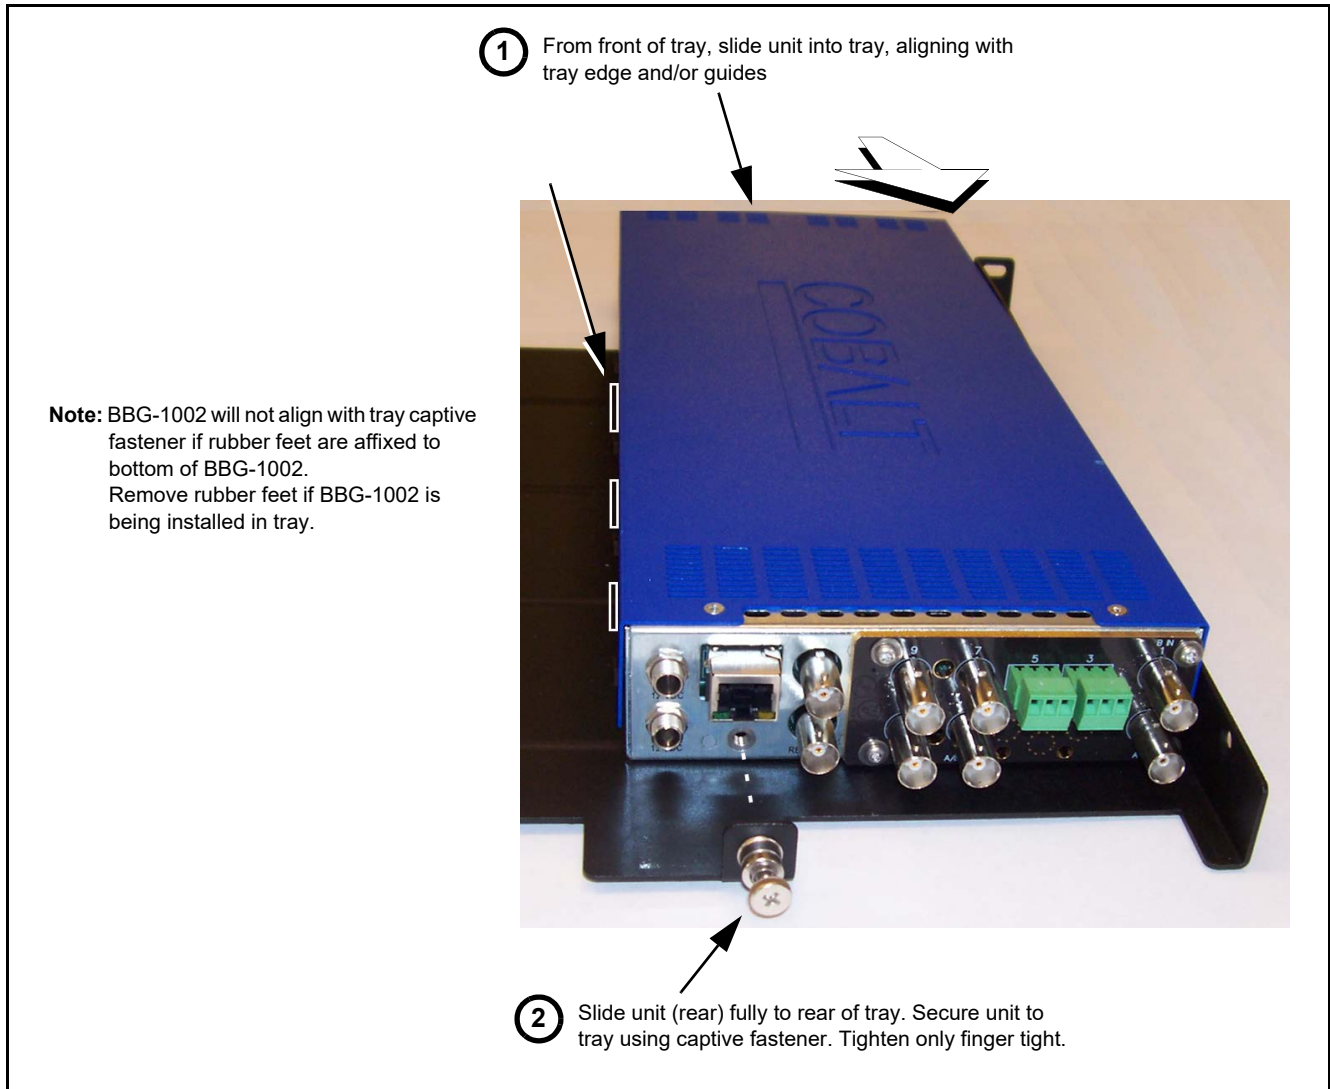

Figure 2-1 Mounting BBG-1002-2UDX Using Frame Mounting Tray
1. If installing BBG-1002-2UDX using optional frame Mounting Tray BBG-1000-TRAY, install BBG-1002-2UDX in tray as shown in Figure 2-1.